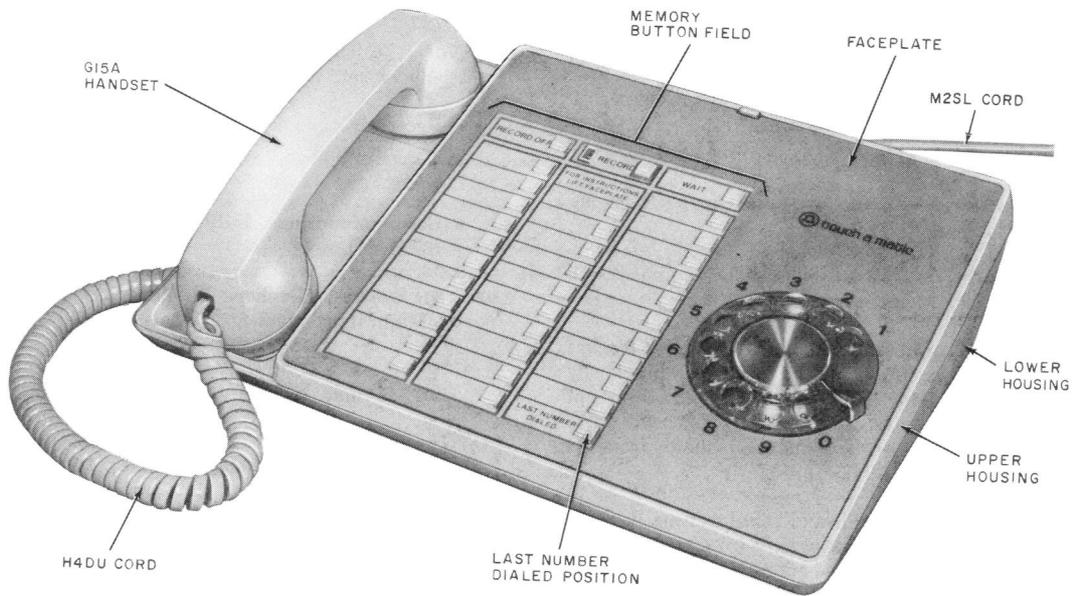

Fig. 1—870A2M Telephone Set
1.01 This section contains information for the 870A1M (MD) and 870A2M TOUCH-A-MATIC telephone set (Fig. 1).